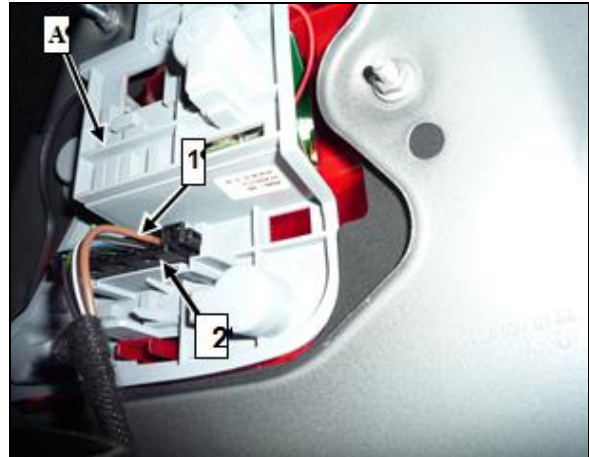

Figure 4
1.  Unplug harness connector (2, Figure 4) from tail lamp bulb carrier (A).
3.  Check (female) wire contact in position 1 (B, Figure 5) on brown ground wire (1, Figure 4) with associated harness connector (2, Figure 4) for damage: Replace defective components refer to WIS: